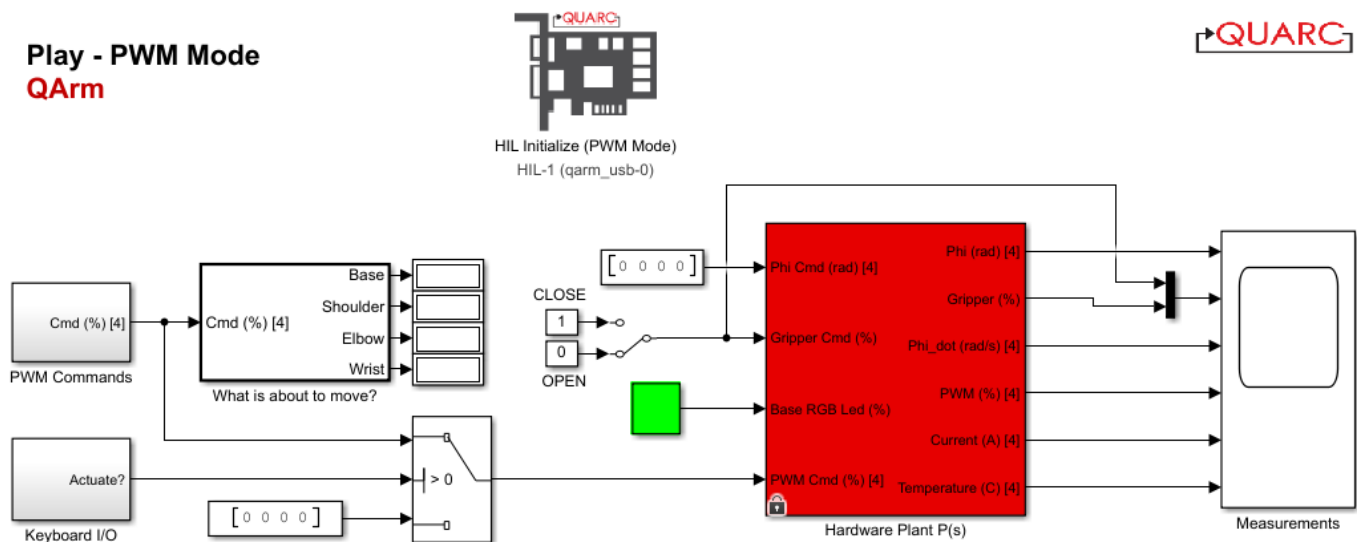

Figure 3: Simulink model that controls the QArm in PWM mode
1. Open the Simulink model play_pwm_mode.slx (Figure 3). You will use this model to experience the PWM signal being sent to each joint.